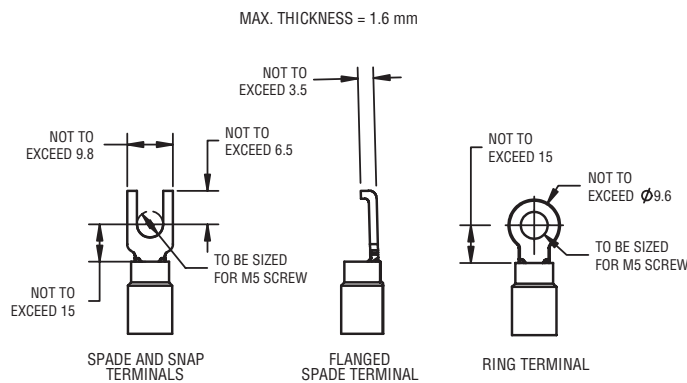
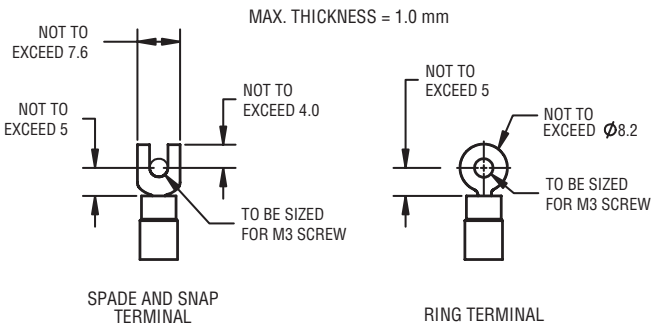

Figure 3.3: Power terminal connector size limitations (all dimensions are in mm)
Figure 3.5: Control terminal connector size limitations (all dimensions are in mm)
Ring tongue connectors used on the power terminals should comply with the dimensions shown in Figure 3.3. For additional information, consult terminal manufacturer.
Ring tongue connectors used on the control terminals should comply with the dimensions shown in Figure 3.5. For additional information, consult terminal manufacturer. Preload the M3 screws to 0.33 to 0.66 Nm (0.25 to 0.50 ft-lb).
**NOTE:** Alternative manufacturers may be substituted only if dimensions are in accordance with Figure 3.5.
All terminations should be made with insulated ring terminals using the appropriate crimping tool. See Figures 3.3 and 3.4 for power terminal connection recommendations. See Figure 3.5 and Tables 3.2 and 3.3 for control terminal connection recommendations.
See Figures 3.3 and 3.5 for connection information.